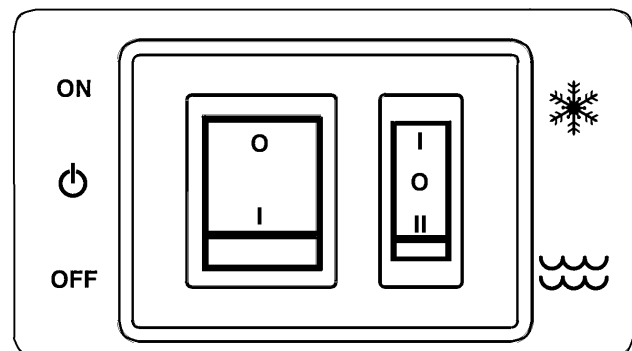

Fig. 6
- Activate the FROZEN mode by switching on the snowflake button (right side, small button, position I, see fig.6).
NOTE: if you need to switch from FREEZING mode to DEFROST one, it's necessary to switch the small button on the waves position (position II in the figure 6).